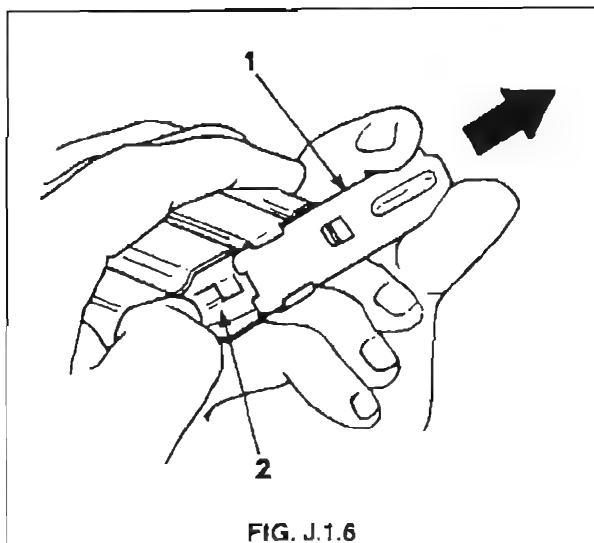

FIG. J.1.6
3. Push the bottom plate forward until it stops. Apply pressure to the spring platform, with the thumb of the hand supporting the magazine, and continue to slide the bottom plate forward until it is free of the magazine. See Fig. J.1.6